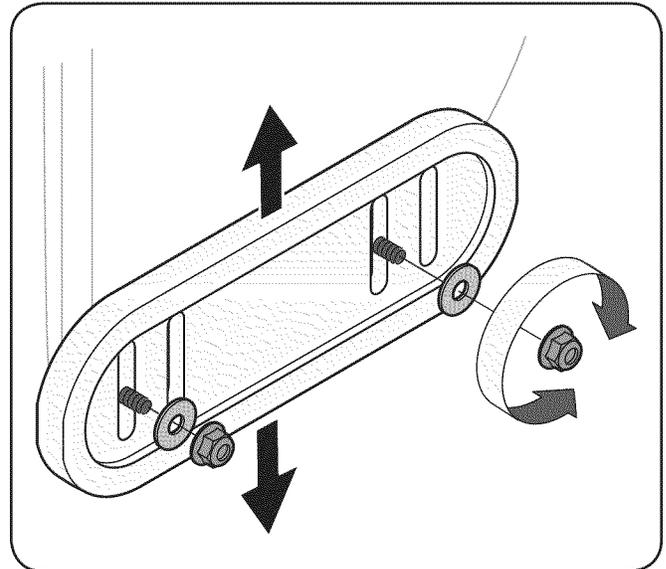

Figure 3-21
1. Loosen the four hex nuts (two on each side) and carriage bolts. Move skid shoes to desired position. See Fig. 3-21.